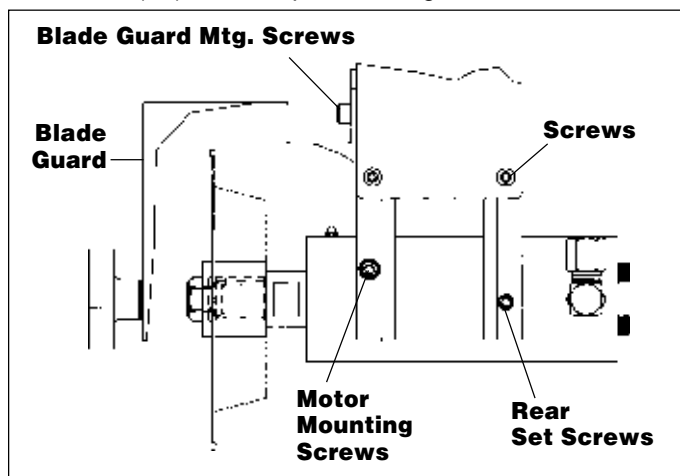

FIG.1
A. Blade Installation (Fig. 1)
B. Installing Bevel Cutters (Fig. 1)
1. Check motor tightness by tightening the motor mounting screws (2) on the front plate of the motor bracket.
2. Position rear set screws (2) to lightly touch the motor. (Tightening the rear set screws will damage the motor and warp the motor bracket.)
1. Lubrication: Lightly grease the bearings after each days use with the grease and grease gun provided (Dotco Grease No. 45-09833 is recommended). The grease fitting is located on top of the motor underneath the blade guard. (Fig.1)